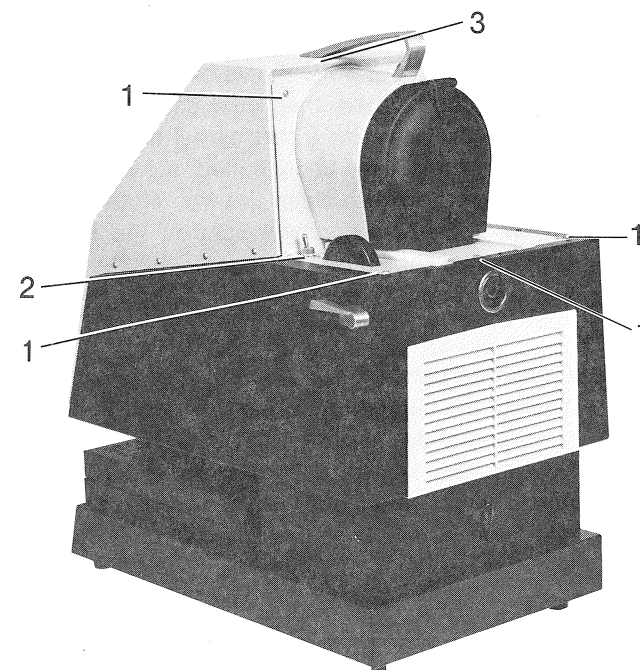

Figure 6 — Lens Deck
- (b) Remove screw (3, Fig. 6) from top handle.
- (c) Remove jam nut (2, Fig. 6) from switch.
- (d) Remove 6 oval head and 1 flat head screws (1, Fig. 6) from Lens Deck Assembly.